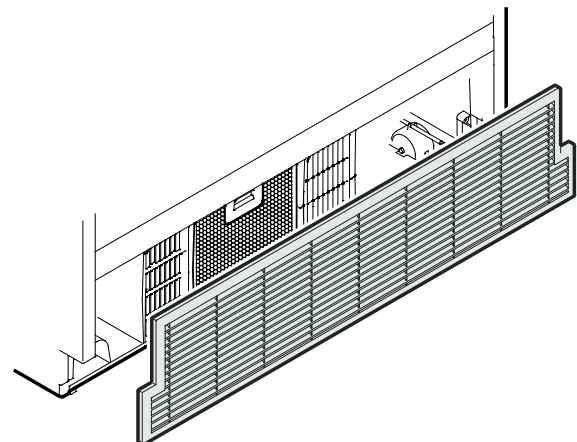

Figure 36
3. Mount the ventilation grille as shown in **Figure 36**.